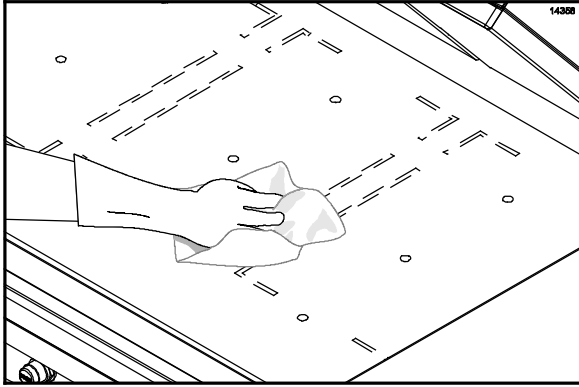

Figure 112
44. Wipe the lower grill surface with a clean, sanitizer-soaked grill cloth. Repeat, until no visible soil remains. (See Figure 112.)